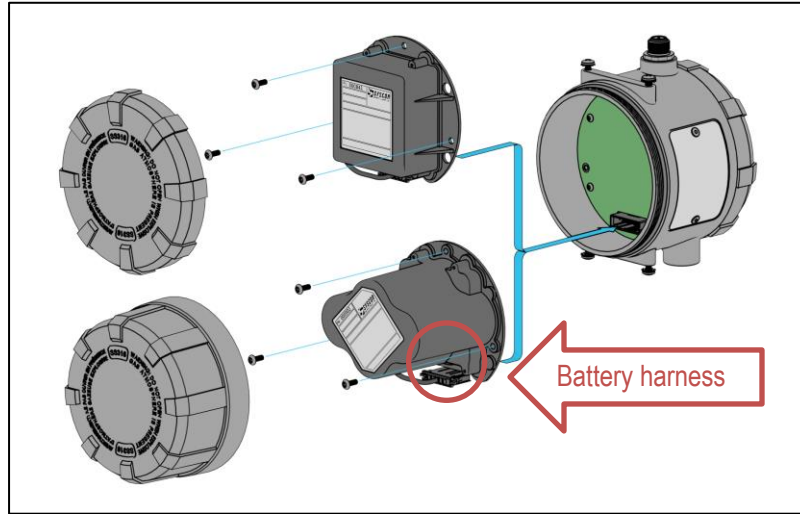

Figure 17: Battery compartment exploded view
3. Slide replacement battery pack into enclosure according to the battery pack size in *Figure 17: Battery Compartment Exploded View* below.